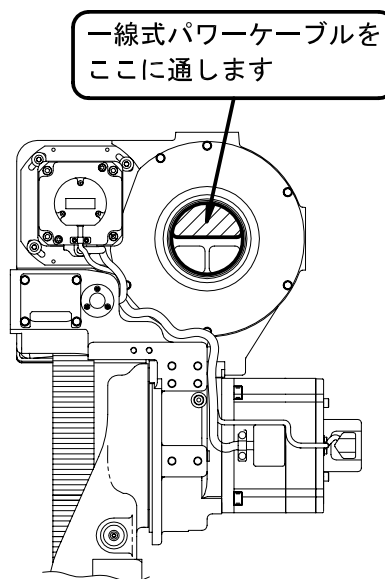
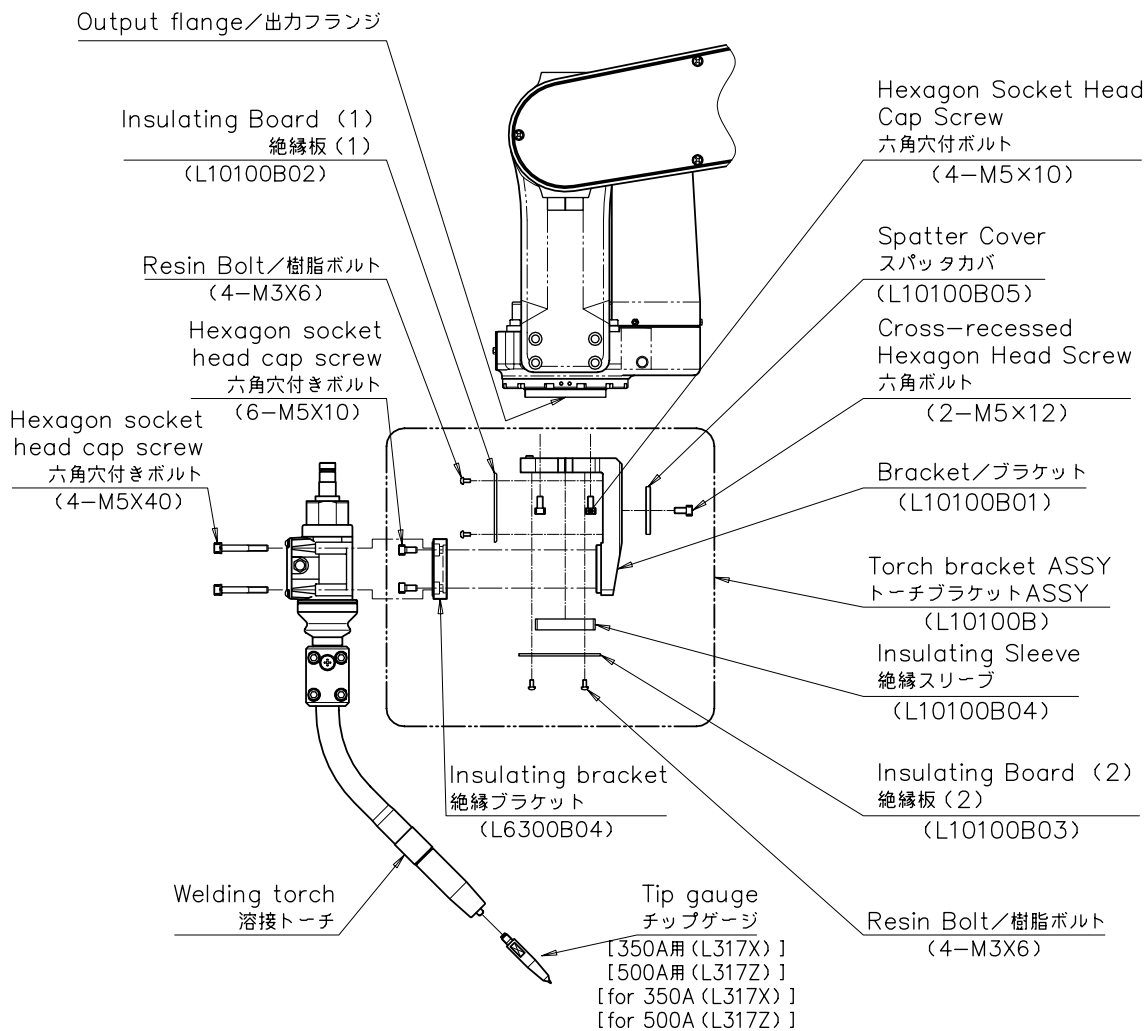

Fig. 3.7 Location of leading the coaxial power cable
Fig. 3.8 Mounting the curved torch (MTXC-3531)
- (1) Fix the bracket (L10100B01) with 4 pieces of hexagon socket head cap screws (M5*10) onto the output flange of manipulator.
- (2) Insert the insulating sleeve (L10100B04) into the bracket (L10100B01) fixed in the procedure (1), and fix the insulating board (2) shown in the Fig.3.8 with 4 pieces of resin bolts (M3*6). In the same way, fix the insulating board (1) (L10100B02) with 4 pieces of resin bolts (M3*6) to the bracket.
- (3) Fix the insulating bracket (L6300B04) to the bracket (L10100B01) with 6 pieces of hexagon socket head cap screws (M5*10), and the spatter cover (L10100B05) to the bracket with 2 pieces of hexagon socket head cap screws (M5*12).
- (4) Mount the torch to the insulating bracket with 4 pieces of hexagon socket head cap screws (M5*40) that come with the torch.
- (5) Lead the coaxial power cable into the location shown in Fig.3.7, and connect it to the wire feeding unit.